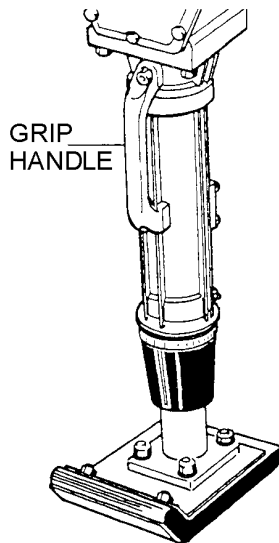

Figure 3. Grip Handle
1. When transporting the rammer, carry it by the grip handle located on the body (Figure 3).